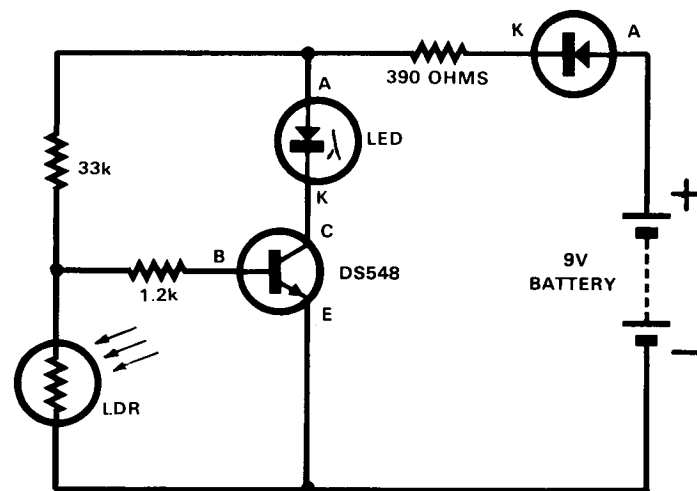
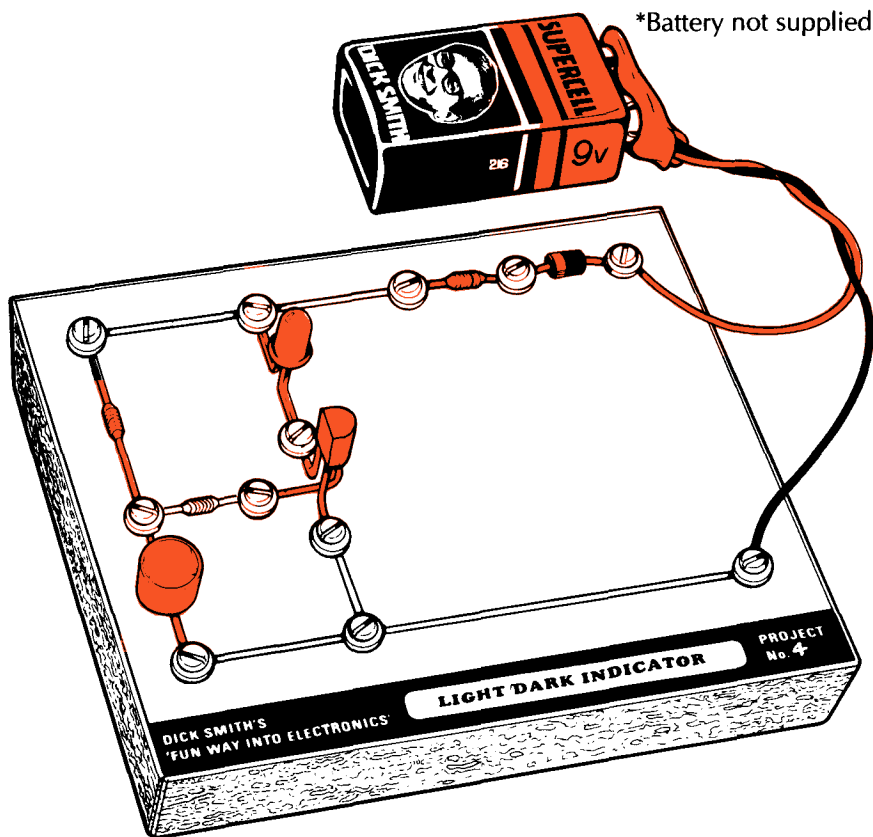

Figure 1
Figure 2
- (1) Cut out the project overlay No. 4 at the back of this book and glue it to your baseboard. Connect the wires and components as shown in the circuit diagram (Fig. 1) and the layout diagram (Fig. 2)
- (2) Mount the semiconductors (transistor, diode and LED) last, and make sure you have connected them the correct way around and that the leads are not touching one another.
- (3) Connect a battery to the clip. If all is well, nothing should happen!
- (4) Now cover the light dependent resistor (LDR) with your finger. The LED should now be glowing brightly. Take your finger away and the LED should go out. (You may find that you have to shield the LDR more effectively from light for correct operation.) Try a handkerchief or similar.